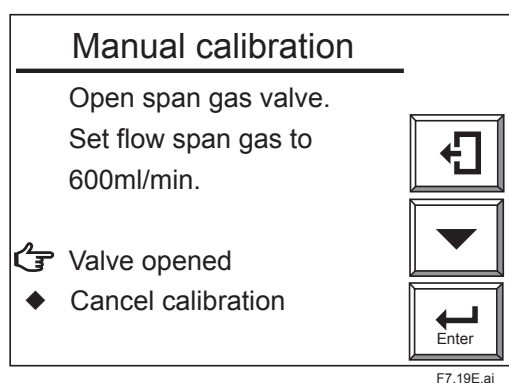
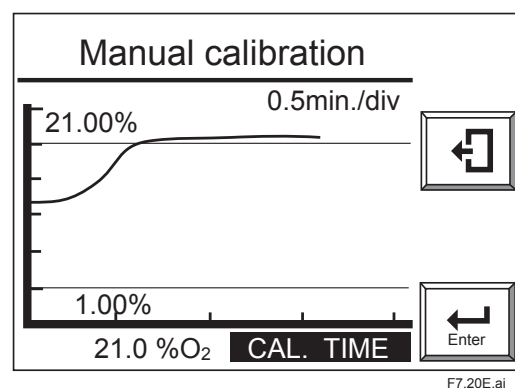

Figure 7.30 Span gas Flow Display
Figure 7.31 Span gas Trend Graph (for Manual Calibration)
- (3) Follow the display message in Figure 7.30 to turn on span gas flow. Open the span gas flow valve for the Flow Setting Unit by loosening the valve lock nut and slowly turning the valve shaft counterclockwise to flow the span gas at 600 ± 60 ml/min. Use the calibration gas flowmeter to check the flow.
- (4) If "Valve opened" is selected as in Figure 7.30, an oxygen concentration trend graph (with the oxygen concentration being measured) appears (see Figure 7.31). The CAL.TIME in the bottom area of the panel flashes. Observe the trend graph and wait until the measured value stabilizes in the vicinity of 21% on the graph. At this point, calibration has not yet been executed yet, so even if the measured value is above or below 21%, no problem occurs.